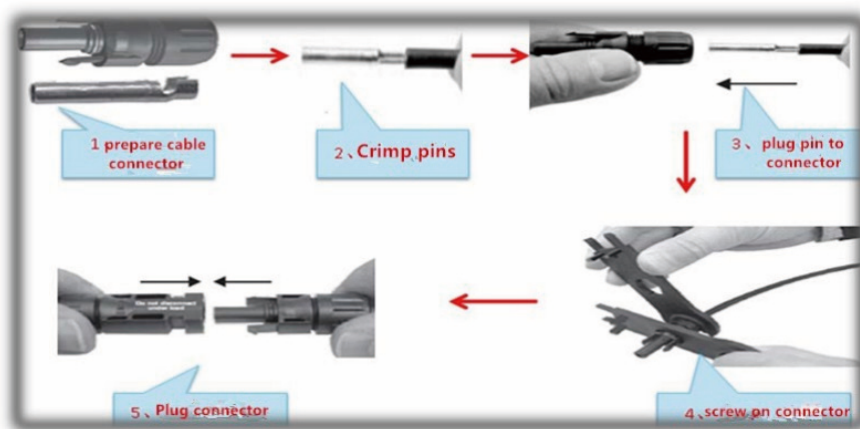

Figure 7-1 Cable connector production method
- If a reverse current exceeding the maximum fuse current of the Sunshine MH product may pass through the product, an overcurrent protection device of the same size must be used to protect the product. If the number of parallel connections is more than or equal to 2 strings, there must be an overcurrent protection device on each string of the products, as shown in Figure 7-1.